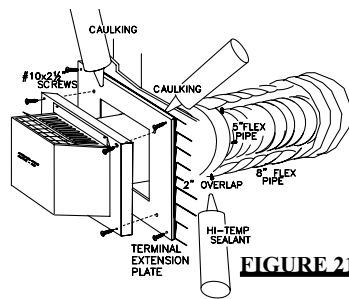

FIGURE 21
1. Secure the terminal to the terminal extension plate (see figure 21).